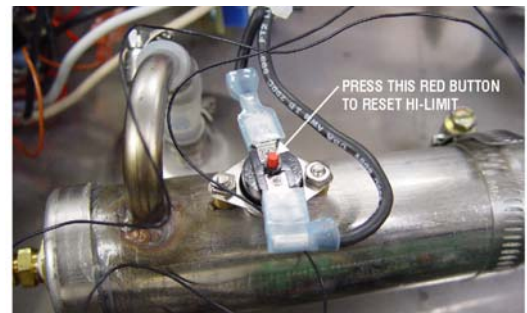

Fig. 4
RESETTING THE HI LIMIT THERMOSTAT: (Fig. 4)
8. Remove the top cover and locate the Hi-Limit Thermostat. (Fig. 4)